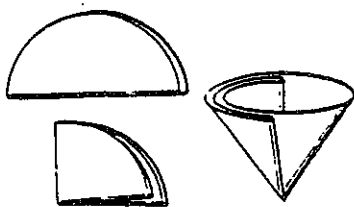

Figure 2. Folding the filter paper.
1. Fold a filter paper circle in half and then quarters. Open the folded paper to form a cone with one thickness of paper on one side and three thicknesses on the other (Figure 2).